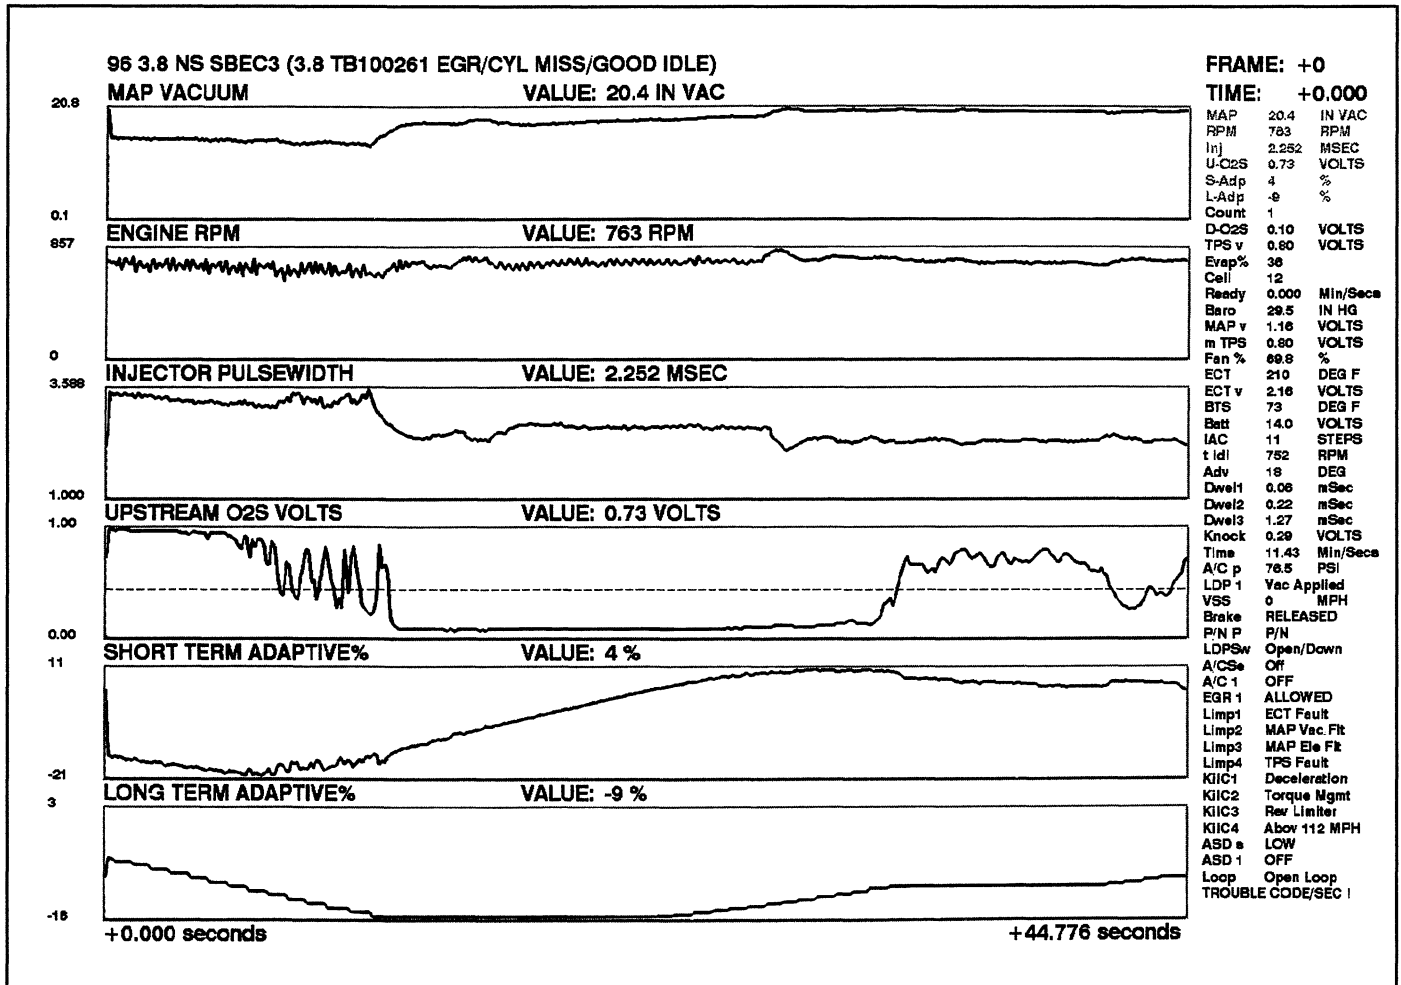

Fig. 3
• Reference Fig. 3 for the following examples.